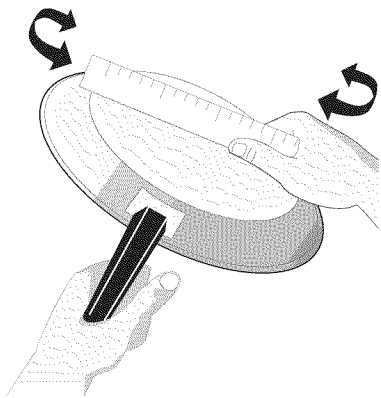

Figure 4: Check for level-bottomed cookware
- Cookware should have flat bottoms that make good contact with the entire cooking zone area. Check for flatness by rotating a ruler across the bottom of the cookware (See Figure 4).